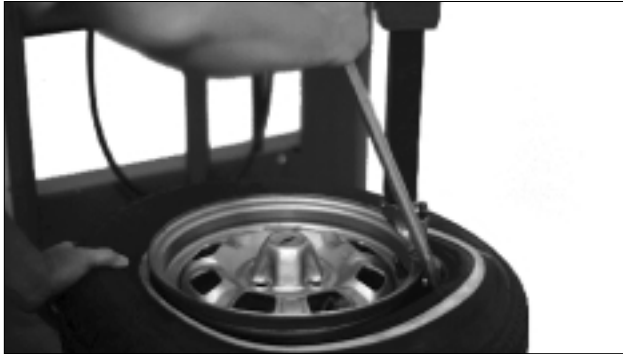

Figure 9 - Insert Bead Lifting Tool
10. Insert the smooth curved end of the bead lifting tool over the forward end of the demount head and below the top bead of the tire. Use your free hand to press down on the tire opposite the head to help with tool insertion (Figure 9).
J. Push down on the tire across from the demount head during table top rotation to utilize the drop center area of the wheel. This reduces the tensional force on the top or first bead during demount (Figure 9).